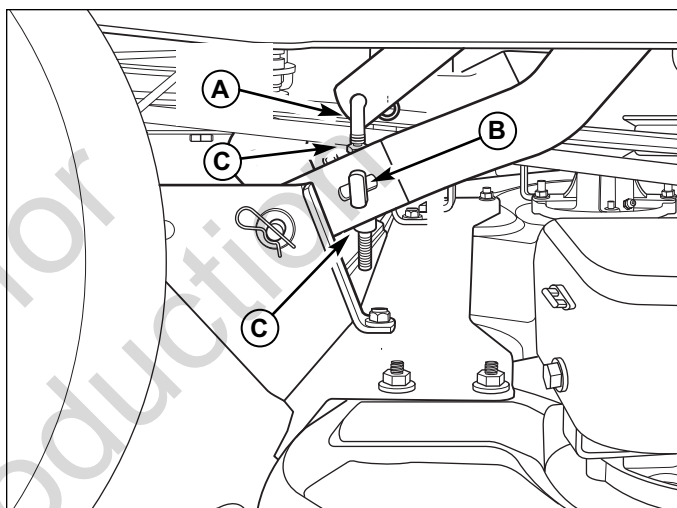

Figure 23. Mower Leveling - Side-to-Side (Right side shown, left side hidden)
5. Side-to-side leveling is accomplished using the threaded rod (A, Figure 23) and trunnion (B) on the right and left rear sides of the mower deck. Loosen the jam nuts (C) and adjust the nuts up or down to adjust the mower level. When complete, tighten the jam nuts against the trunnion to lock the adjustment in place.